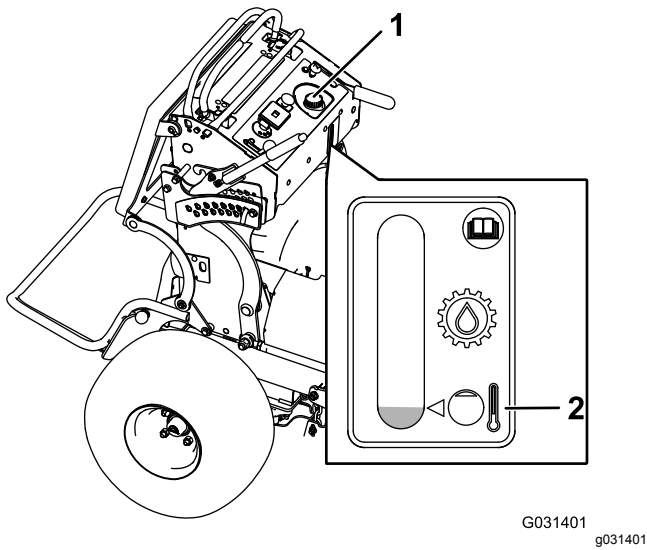

Figure 70
- 4. Remove the cap from the filler neck (Figure 70).